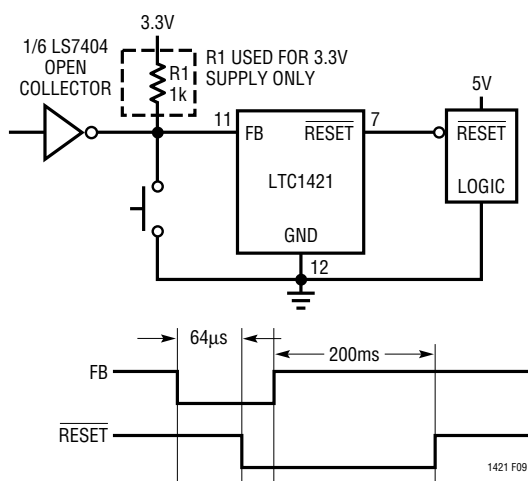

Figure 9. Generating a Soft Reset
A soft reset that doesn't cycle the supply voltage can be generated externally using Pin 11 (FB) as shown in Figure 9. For a 5V supply the FB pin is left floating to set the internal supply monitor trip voltage to 4.65V. However, if the FB pin is pulled to ground for more than 64 μ s via a push button or open-collector logic gate, the internal trip point will go to 5.88V and the RESET pin will pull low. RESET will remain low for 200ms after the FB pin is released. The RESET signal will also be pulled low when the voltage at the V_{OUTLO} pin dips below 4.65V for more than 64 μ s. When using a 3.3V supply, a 1k resistor must be connected from the FB pin to V_{CCL0} to set the internal trip point to 2.90V.